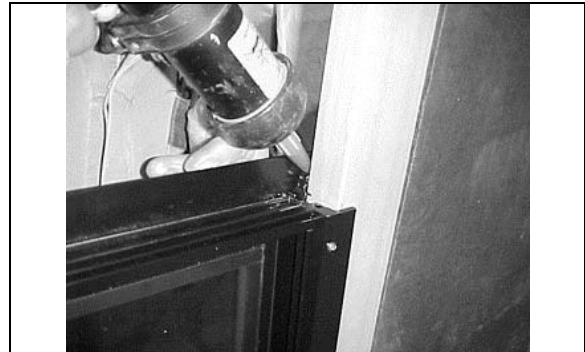

FIGURE 80 : SLIDING WINDOW – SEAL THE UPPER CORNERS
7. Using Sika 252 or 255, seal the inside upper corner of the sliding window, both side (FIGURE 80);